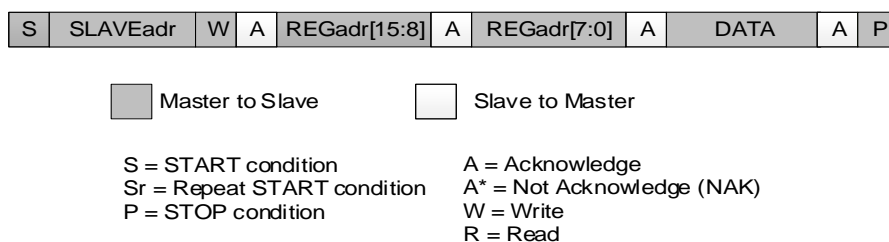
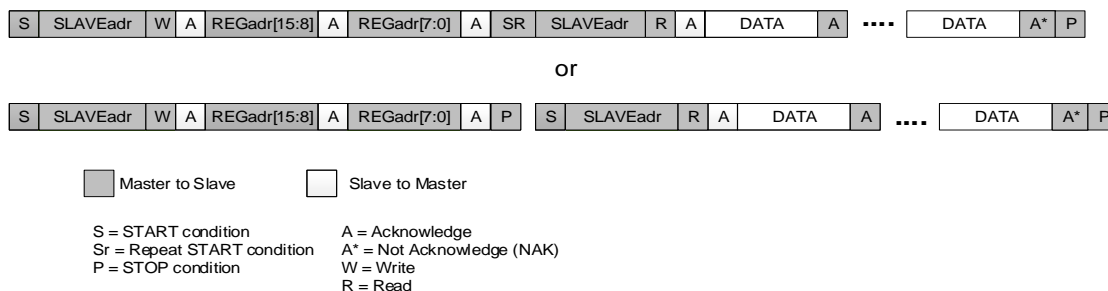

Figure 7: I²C Byte Write (SDA line)
Figure 10: Examples of I²C Page Read (SDA line)
The I²C bus is monitored by DA7400 for a valid slave address whenever the interface is enabled. It responds with an acknowledge (A) immediately when it receives its own slave address. An acknowledge is indicated by the receiver pulling the SDA line low during the clock cycle immediately following the byte transmitted, see Figure 7 to Figure 10.
The protocol for a register write from master to slave consists of a start condition, a slave address with read/write bit and the 16-bit register address followed by eight bits of data terminated by a stop condition (DA7400 responds to all bytes with an acknowledge), see Figure 7.